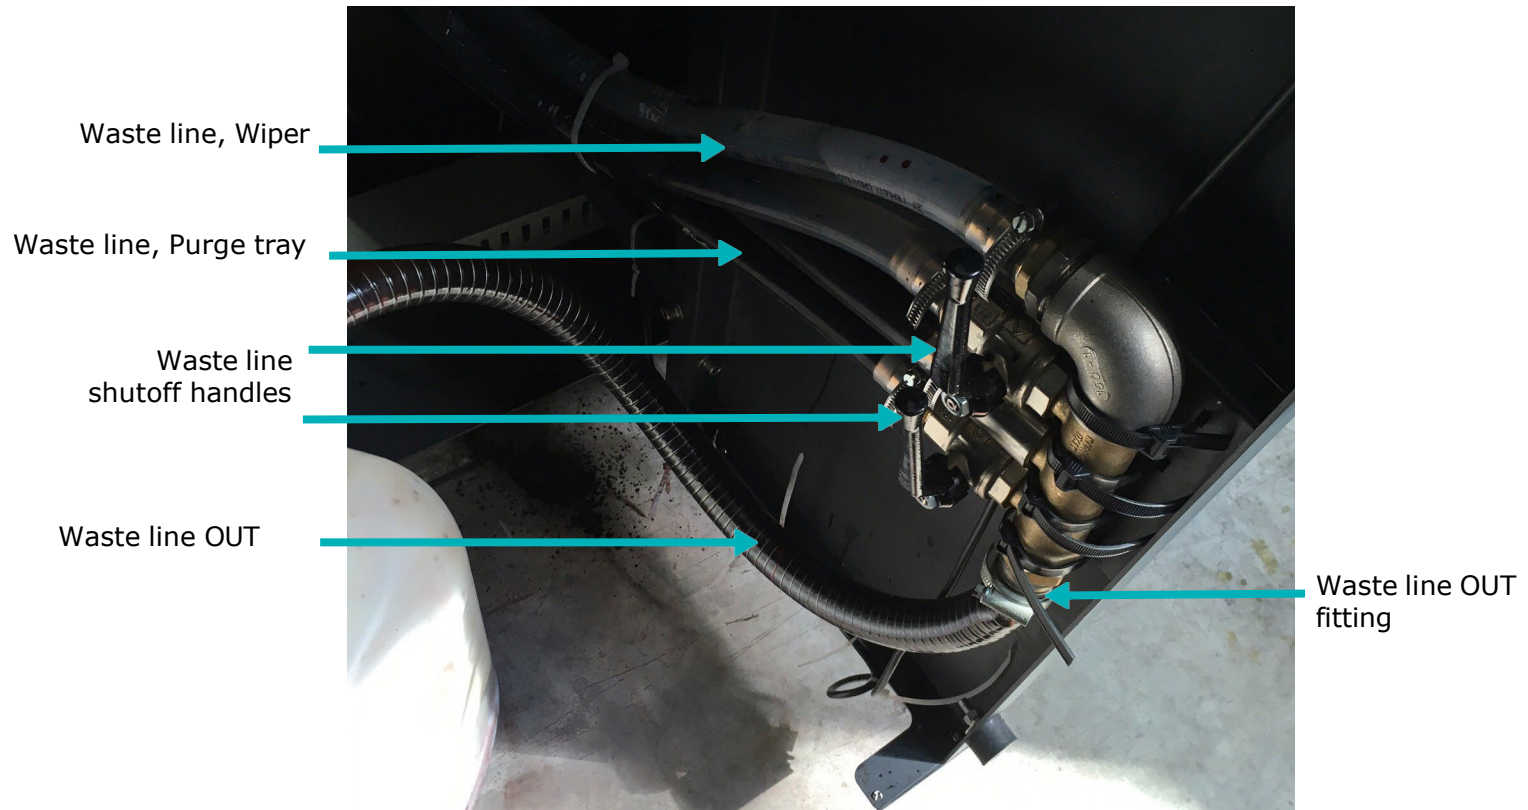

Figure 1-18: Main Waste
1. Locate the waste line OUT fitting, Figure 1-18.